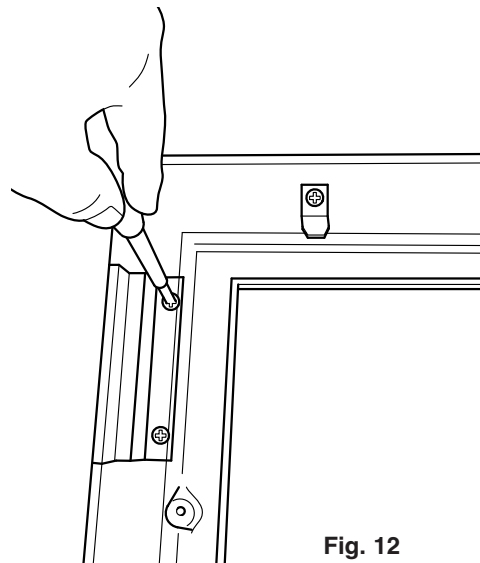

Fig. 12
6. Remove the blanking plate to enable the slide mechanism to operate by removing the two screws (Fig. 12).